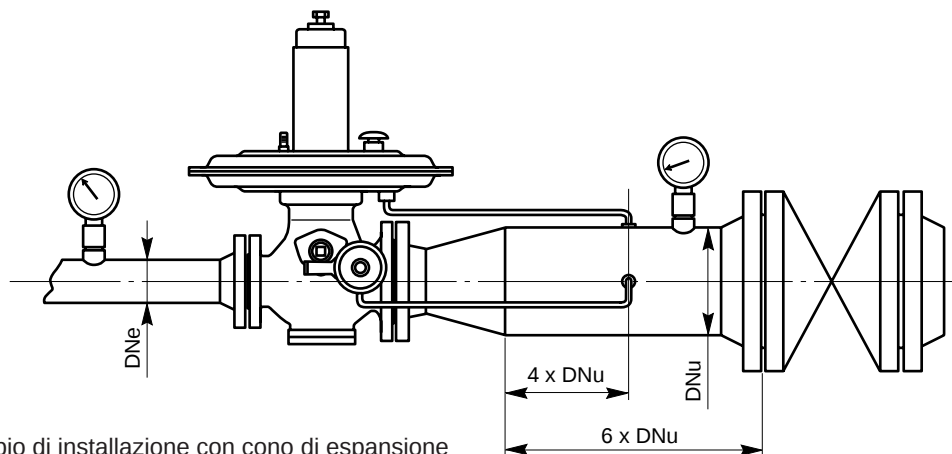

FIG. 5 Esempio di installazione con cono di espansione
- In models with external impulse connection, link-up must be made downstream of regulator (Fig. 5).
- In models featuring internal impulse connection, connect the sensing line prior to regular being installed onto the line. In case of values exceeding those shown in the “OUTLET PRESSURE- CAPACITY” table, these models require an external impulse connection (see Fig. 5).